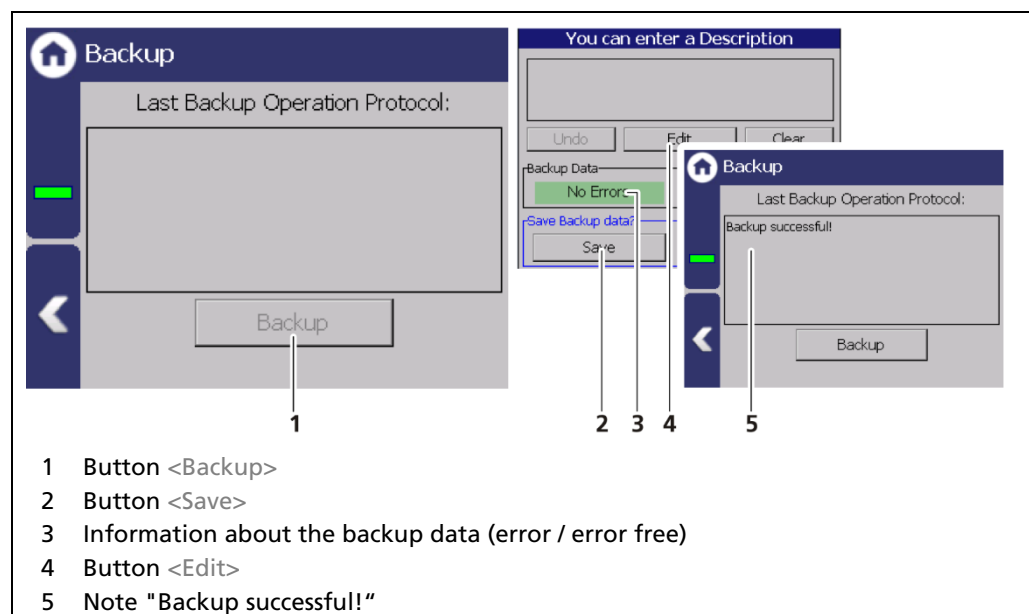

Fig. 116 Backup
2. The USB storage device is recognized by the system after a few seconds and the button <Backup> (Fig. 116, item 1) can be clicked.
3. Click on the button <Backup> (Fig. 116, item 1).
- ▶ The message "No Errors" (Fig. 116, item 3) appears in the field "Backup data" for error-free backup files.
- 4. Click the button <Edit> (Fig. 116, item 4), enter a description, and confirm with the Enter key.
- 5. Click on the button <Save> (Fig. 116, item 2).
- ▶ The message "Backup successful" appears after a successful copy process (Fig. 116, item 5).